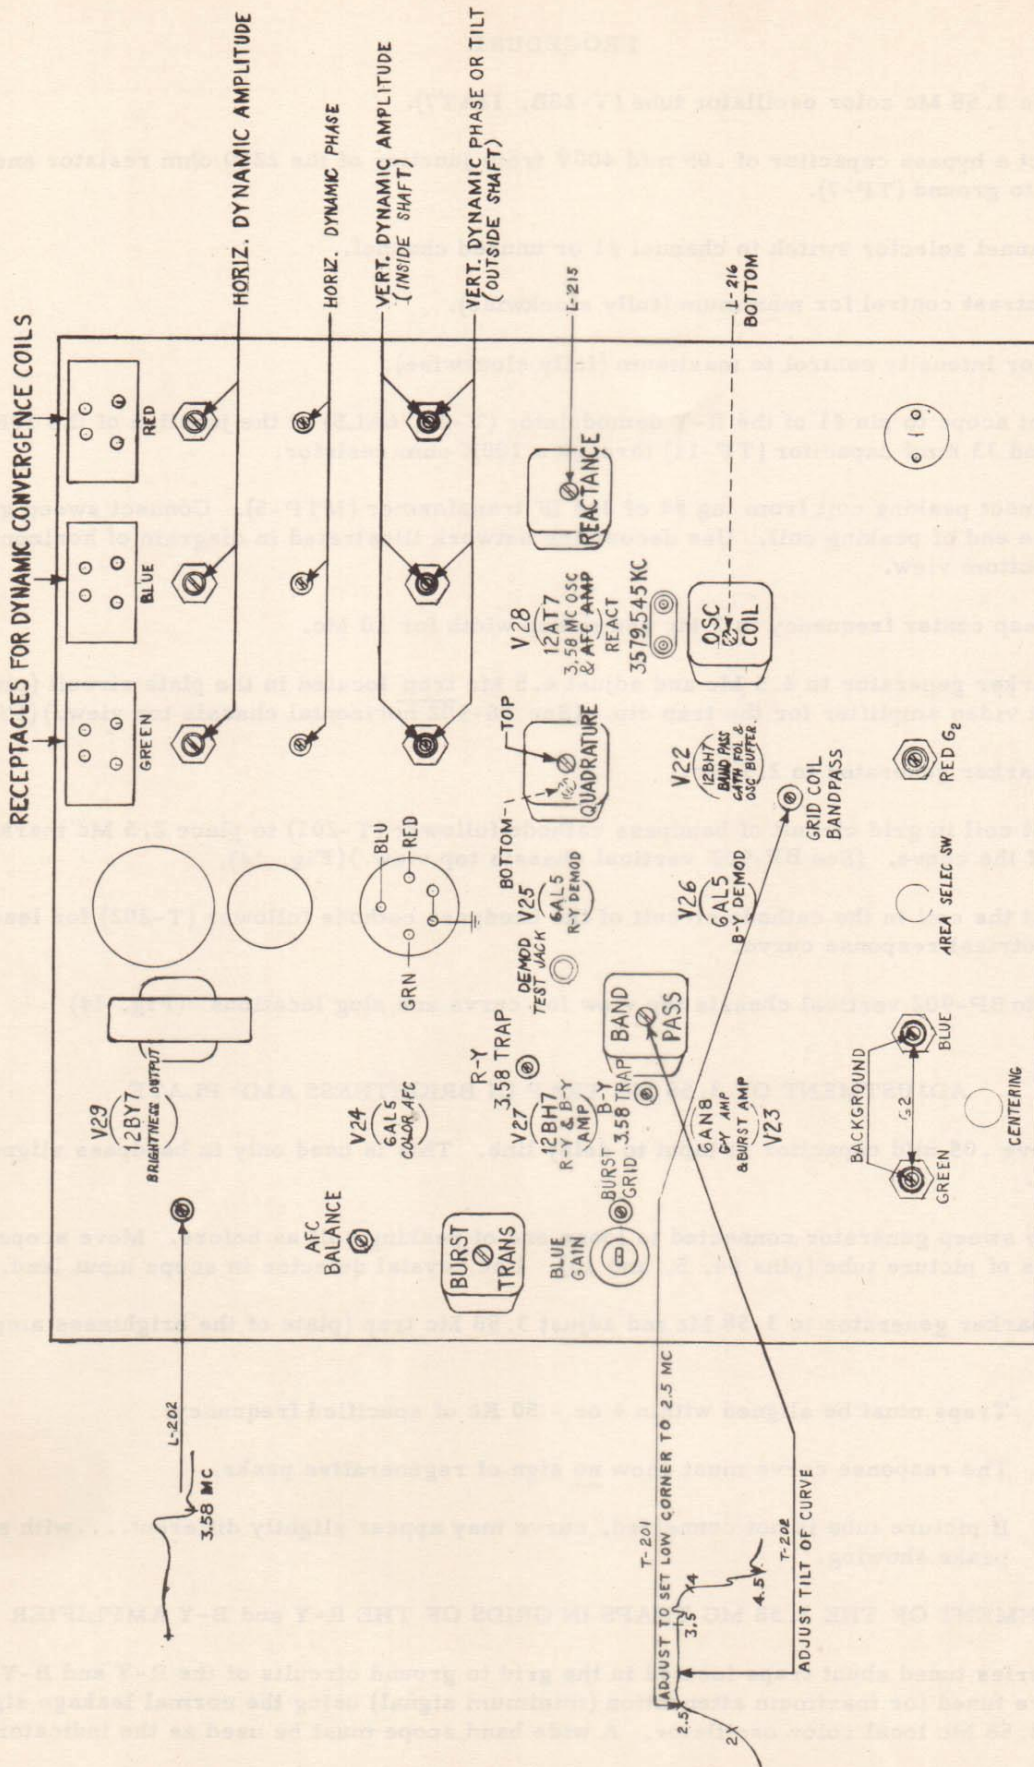

FIGURE 14. BP-902 VERTICAL CHASSIS (TOP VIEW)
11. Adjust coil in grid circuit of bandpass cathode follower (T-201) to place 2.5 Mc marker at the knee of the curve. (See BP-902 vertical chassis top view.) (Fig. 14).
Refer to BP-902 vertical chassis top view for curve and slug locations. (Fig. 14)